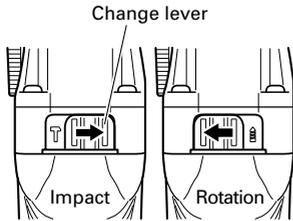

Fig. 8
**8. IMPACT to ROTATION changeover (Fig. 8)**